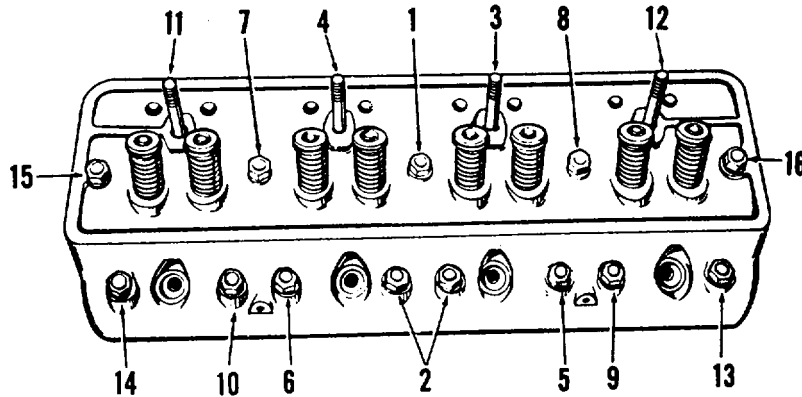

Figure 58. Engine cylinder-head stud nut tightening diagram.
- (4) Install and tighten the 17 hex nuts (14) and special washers (13), following the sequence shown in figure 58. Tighten all cylinder head nuts with a torque wrench to 90 foot-pounds of torque. These nuts must be retightened after the engine is warm and before adjusting the valve clearance.